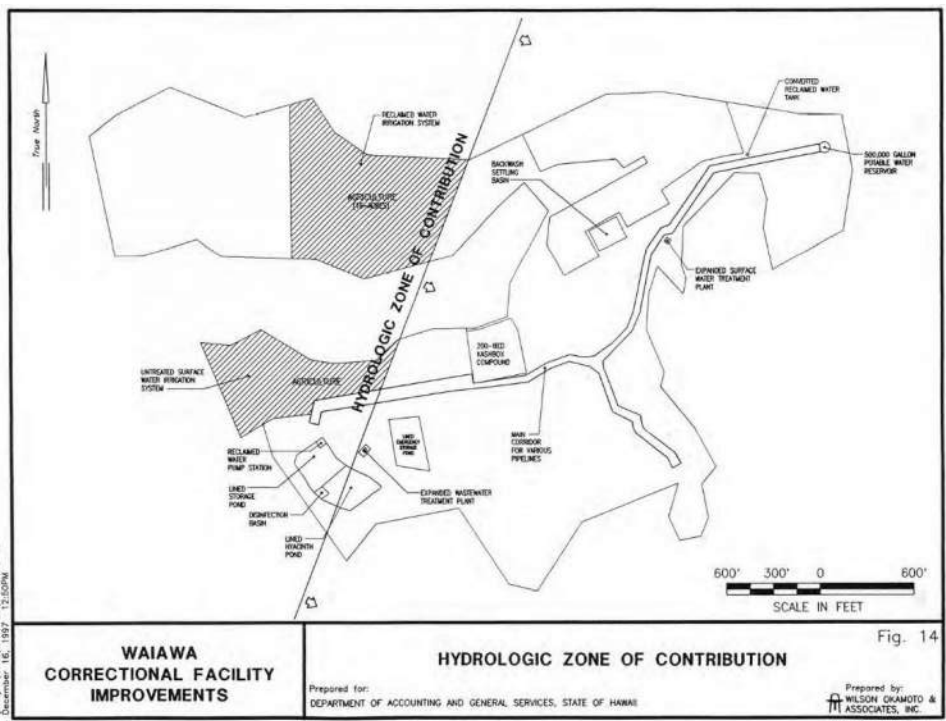

Figure 2: The 2007 FEA for Waiawa Correctional Facility shows the Hydrologic Zone of Contribution overlaps a substantial portion of WCF.
- 3.2. As a follow-up to the meeting, HHF noted that the Hydrologic Zone of Contribution (HZC) shown in the 1997 FEA (figure 2) overlaps a substantial part of WCF, including a portion of the new hyacinth lagoon and agricultural areas. HHF requested AECOM’s assistance to help identify correct source document that defines HZC and approximate location of HZC, relative to Waiawa Correctional Facility (WCF) boundary.
- 3.2.1. Update 1/27/2017: Lambert provided a copy of the original document defining the HZC: *Report to the Office of State Planning by the Dept of Health Safe Drinking Water Branch on the Delineation of the Hydrologic Zone of Contribution for the U.S. Navy Waiawa Shaft, revised September 1990*, which consists of 14 pages, including maps. However, confirmation of the location of the Hydrologic Zone of Contribution was not included as a part of AECOM’s scope of work, so this topic of discussion cannot be confirmed or rejected by AECOM. Based on the original document, HHF generated Figure 3, which shows the HZC further east than the 1998 FEA (figure 2). **The location of the HZC should be confirmed by the Authority Having Jurisdiction to verify its position relative to WCF.**